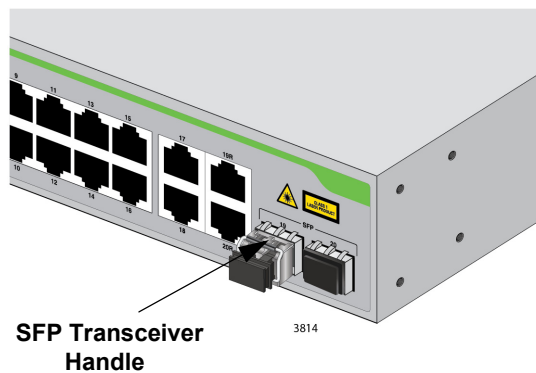

Figure 12. SFP Handle in Upright Position
4. Verify that the handle on the transceiver is in the upright position, as shown in Figure 12. This secures the transceiver and prevents it from being dislodged from the slot.